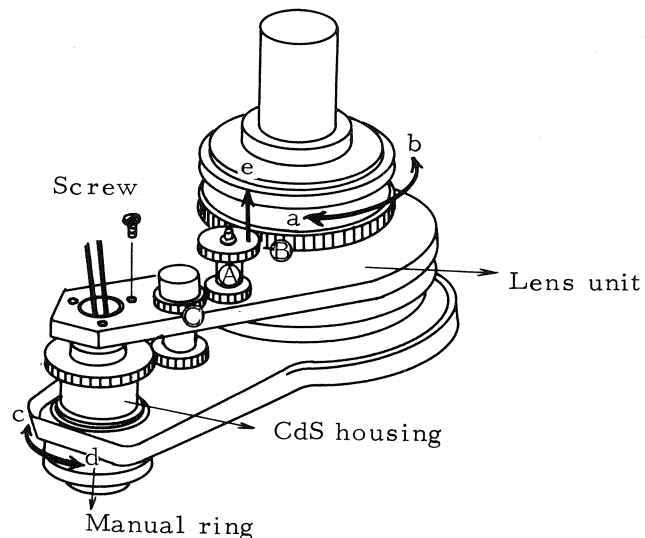
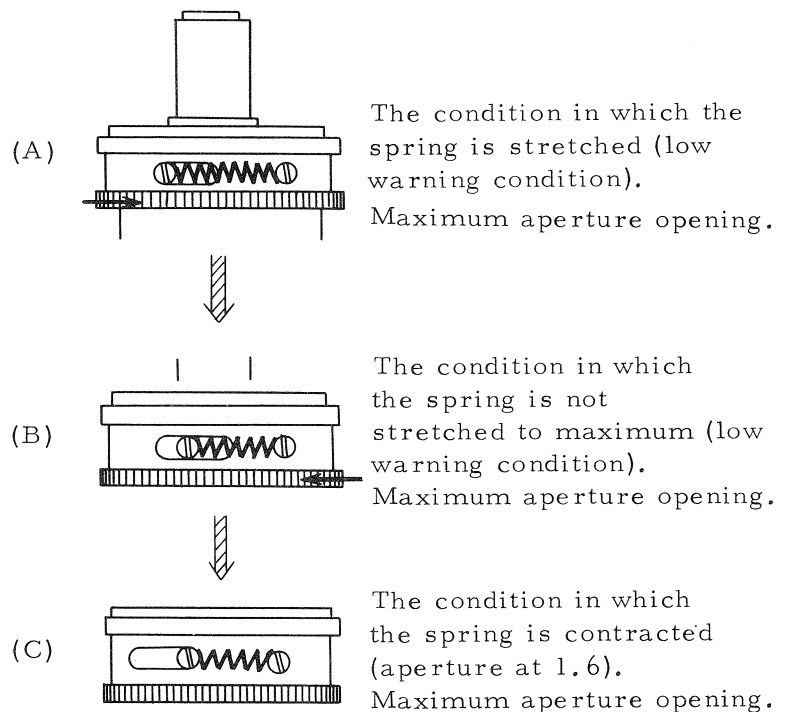
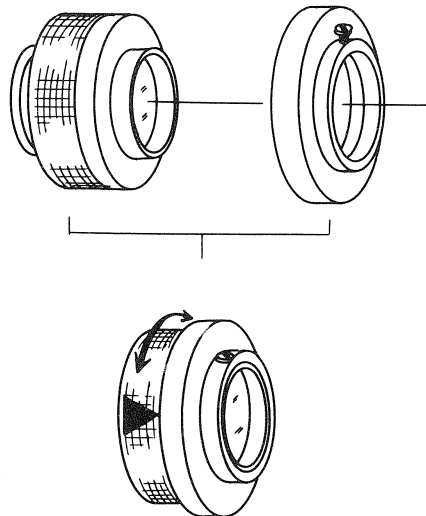

Fig. 26
Fig. 28
Fig. 29
1. Attach the CdS housing to the lens unit. (Fig. 26)
2. Move gear (A), in the above diagram, in the direction of arrow e and remove the connection between gears (C) and (B). (Fig. 26)
4. Turn gear (B) in the direction of b until it stops. (Fig. 26) (Condition as shown in A Diagram of Fig. 28)
5. The spring is stretched to maximum when gear (B) in Fig. 26 is turned until it stops.
(Fig. 28, Diagram A)
(Fig. 28, Diagram B)
6. In this returned condition (Fig. 28, Diagram B) mesh gears (A), (B) and (C) as shown in Fig. 26.
7. When the gears are let go of after meshing, the condition becomes like that shown in Diagram C of Fig. 28. At this time, the manual ring (Fig. 26) slightly returns and the lens aperture is in the condition of maximum opening.
8. In the condition shown in Diagram C of Fig. 28, attach the "aperture adjusting tool" to the tip of the CdS housing. (Fig. 29)
(Fig. 29)
When the movement range is off to one side, this can be changed by changing the meshing of gears (A), (B) and (C) in Fig. 26.
- After the stroke adjustment mentioned above has been completed, check to see that the graduations of the aperture adjusting tool (Figs. 29, 30) attached to the CdS housing and the figures inside the viewfinder are aligned. If F1.6 and F22 are aligned, the adjustment is alright.
- As shown in Fig. 29, attach the aperture adjusting tool to the tip of the CdS housing.